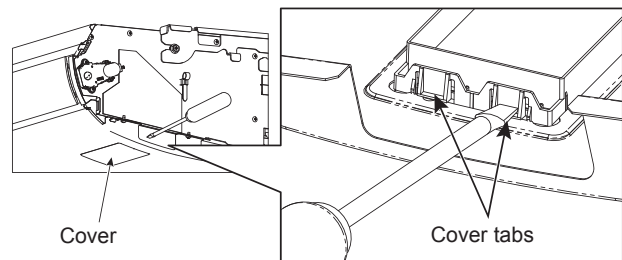

Fig. 3-2-2
- (2) Insert a flat-head screwdriver from the side, and remove the cover while pressing down on the two cover tabs. (Fig. 3-2-2)